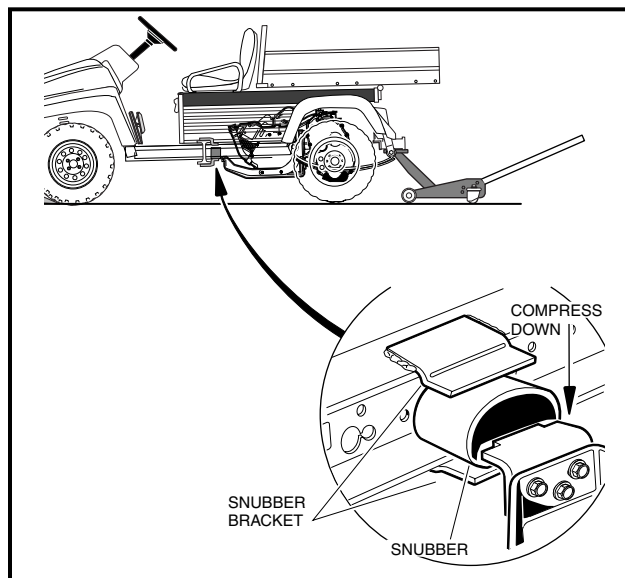

Figure 10-6 Compress Snubber Downward
7. Place a floor jack under the rear receiver hitch where the hitch and body frame are fastened. Lift the vehicle body slightly, allowing the front of the engine to tilt slightly downward, compressing the snubber. This will allow the oil filter more clearance under the electrical component box (**Figure 10-6, Page 10-6**).